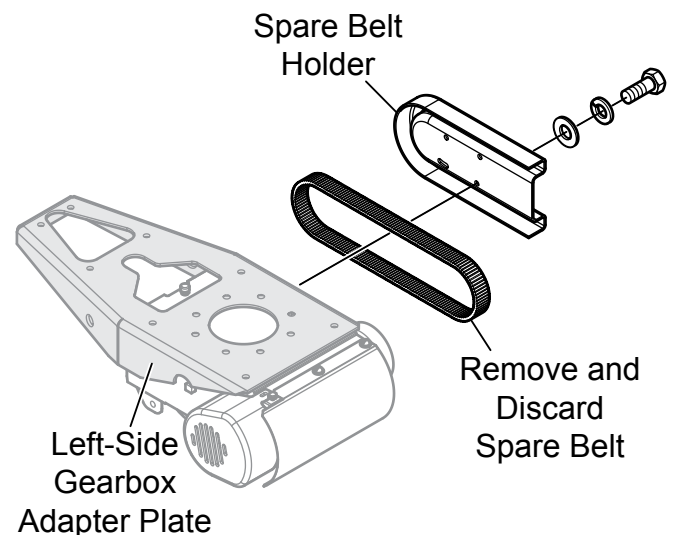

Figure 6. Remove Spare Belt
Reference Figure 6.
1. Reinstall spare belt holder with existing mounting hardware and new spare belt (Figure 1, item 9). See Figure 6.